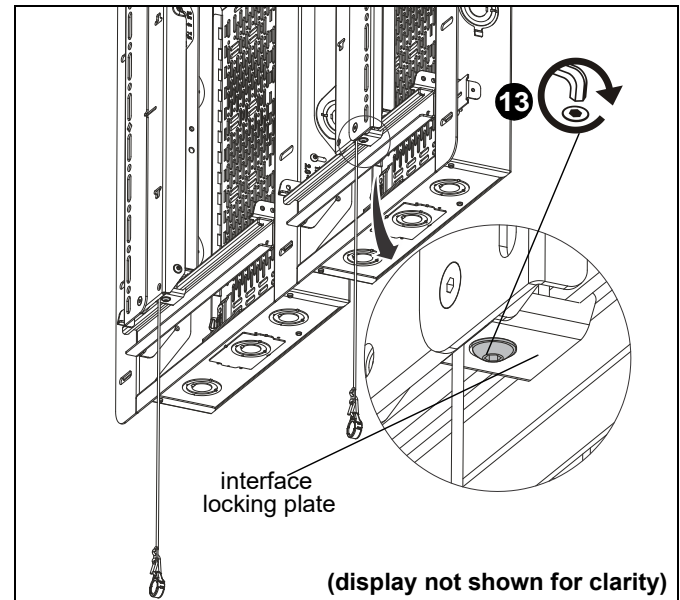

Figure 24
13. Tighten screws that were loosened in Step 8 until interface rail hook is secured under lower rail on both interface brackets. (See Figure 24)